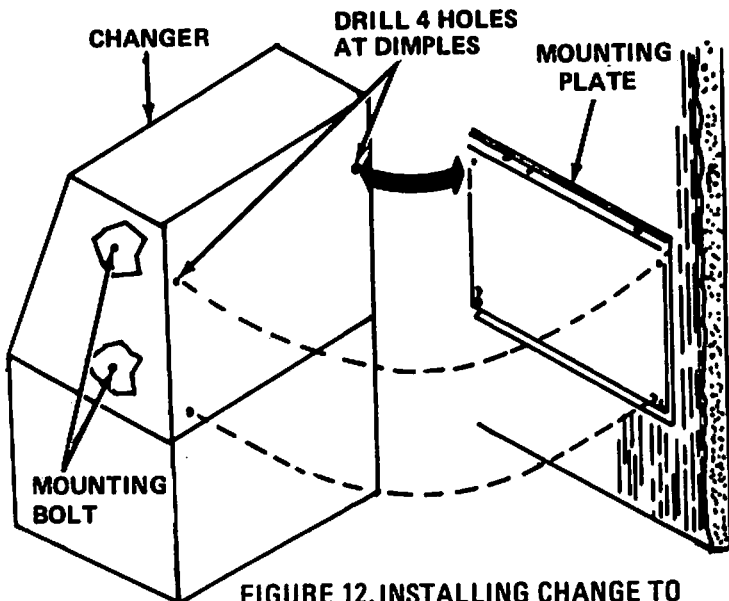

FIGURE 12. INSTALLING CHANGER TO WALL MOUNTING PLATE
- The back of the upper cabinet is dimpled in 4 places. Drill a 7/16" - 1/2" hole in each of these locations to accommodate a 3/8" bolt. Be careful when drilling into cabinet not to drill into internal components. (See Figure 12).